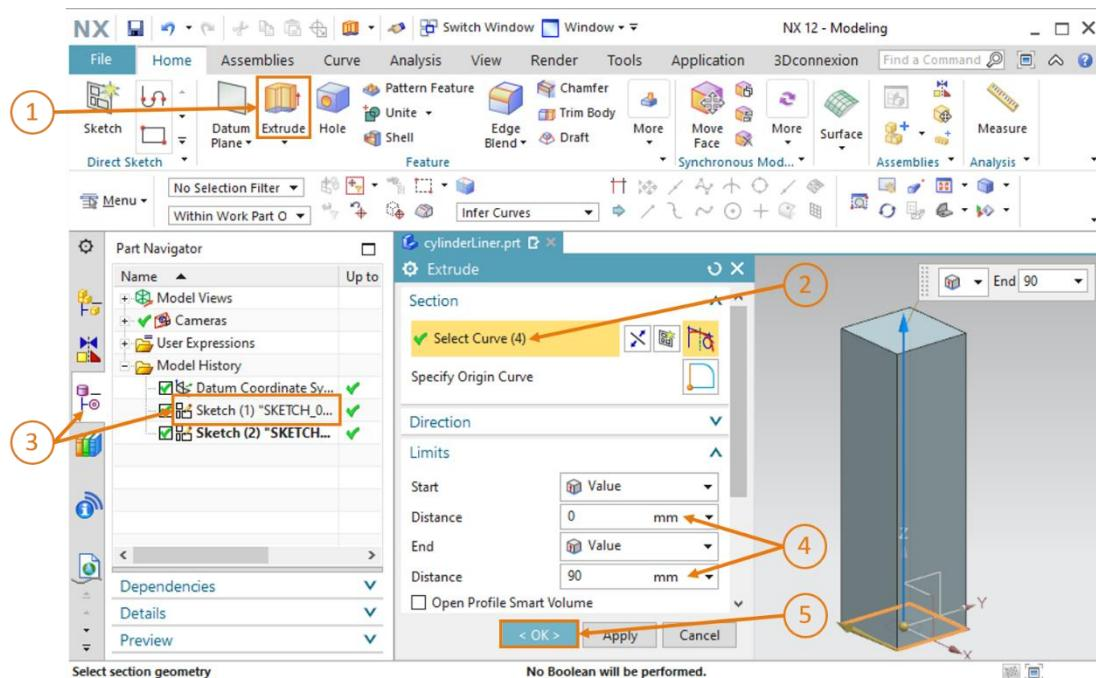

Figure 33: Extruding a square into the base body of the thrust cylinder
- Now, generate a 3D body for the base of the thrust cylinder from your preceding sketch. Use the "Extrude" command for this (see Figure 33, step 1). For definition of the sketch, select the first sketch named "**Sketch (1) "SKETCH\_000"**" in the Part Navigator (see Figure 33, steps 2+3). The start value is to have a distance of **0 mm** and the end value a distance of **90 mm** (see Figure 33, step 4). Confirm your entries by clicking the "OK" button as indicated in Figure 33, step 5.